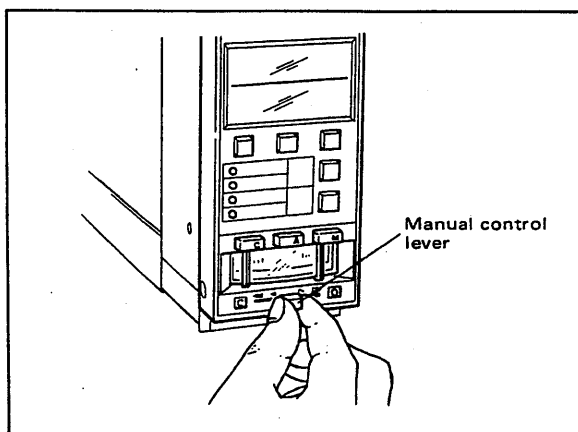

Figure 5-4-2. Manual Output Control.
- (2) Move the manual control lever to left (or right) to adjust the output signal until the totalizer deviation is zero. (Figure 5-4-2).